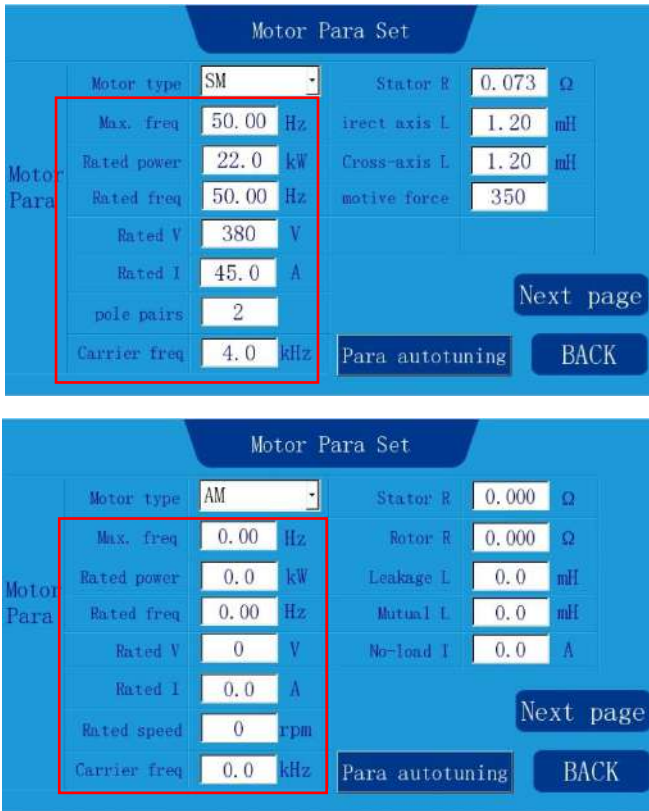

Figure 4-7 Master parameter setup interface
Step 2: Click **Motor Para Set** on the system configuration interface, as shown in Figure 4-7.
Select motor type, if selecting "SM", it is necessary to set the maximum frequency, rated frequency, rated power, rated voltage, rated current, pole pairs, and carrier frequency, as shown in Figure 4-7; if selecting "AM", it is necessary to set the maximum frequency, rated frequency, rated power, rated voltage, rated current, rated speed, and carrier frequency.